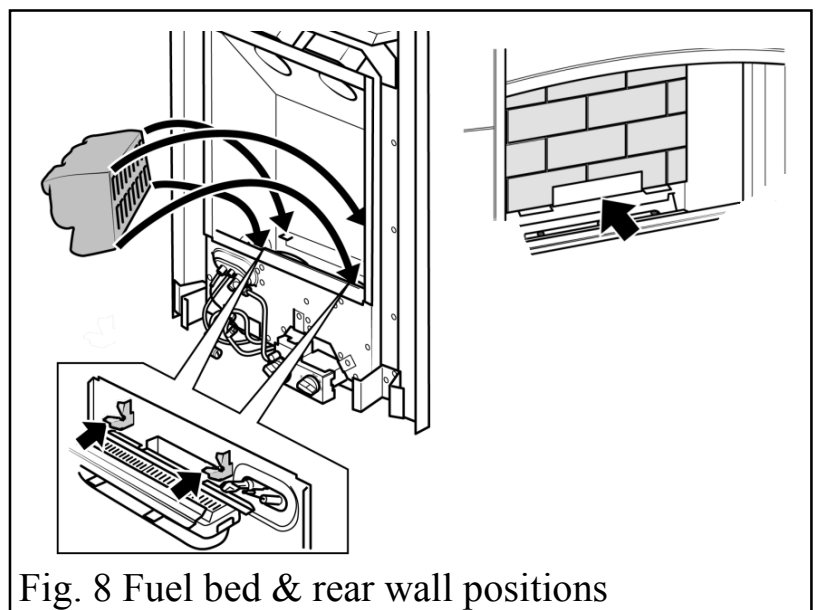

Fig. 8 Fuel bed & rear wall positions
- When refitting the fuel bed, make sure that the front of the coal locates behind the two brackets which are behind the bottom front panel of the firebox. See figure 8.